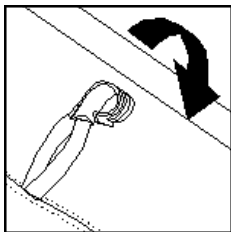

Figure 3A
5. Attach clips located at the seams of the tent to the corresponding poles above each (figures 3A and 3B).